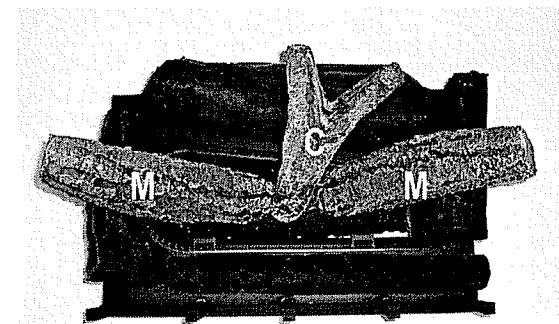

FIGURE J-3
5. Place remaining 'M' log and 'C' log into position as shown in figure J-3.